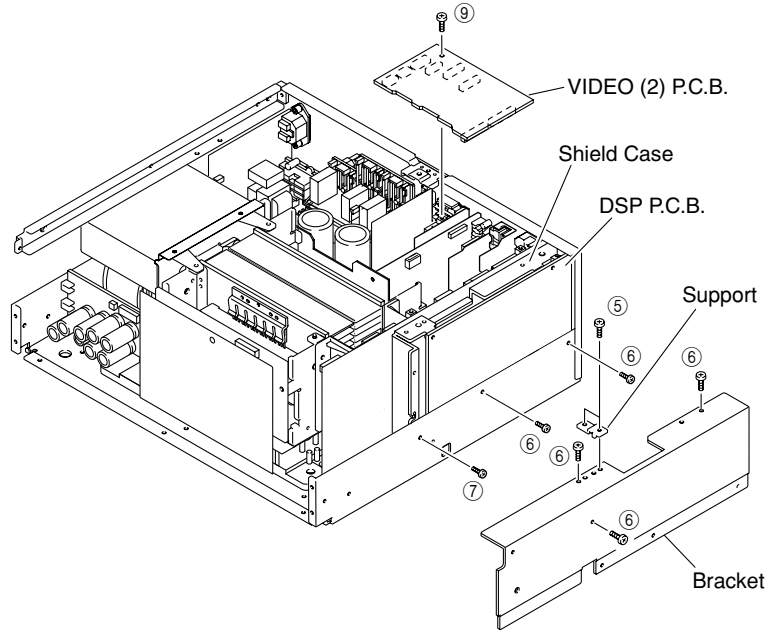

Fig. 4
- a. Remove 2 screws (⑤) and then remove the Support. (Fig. 4)
- b. Remove 5 screws (⑥) and then remove the Bracket. (Fig. 4)
- c. Remove 1 screw (⑦). (Fig. 4)
- f. Remove the DSP P.C.B. and Shield Case upward. (Fig. 4)
**4. Removal of VIDEO (2) P.C.B.**
- a. Remove 1 screw (⑨). (Fig. 4)
- c. Remove the VIDEO (2) P.C.B. which is connected directly to the lower P.C.B. with connectors. (Fig. 4)